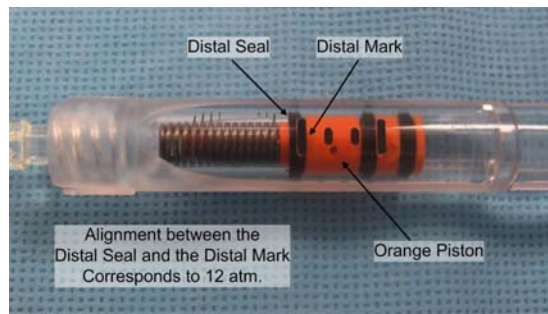

Figure 8
- c. With the balloon protector in place, perform a test inflation of the system by depressing the plunger rod until the distal black seal on the orange piston is aligned with the distal black mark on the inflation device (See Figure 8).
- a. Slowly depress the plunger rod to inflate the balloon. The pressure should be increased slowly (3 – 5 seconds) until the distal black seal on the orange piston reaches the distal black mark on the inflation device (See Figure 8). If these do not align, deflate the balloon and remove the balloon catheter and perform a test inflation (*as described in steps 4.c and 4.d of the System Preparation section*). Alignment of the distal mark and distal seal will ensure that 12 atm of pressure is reached.